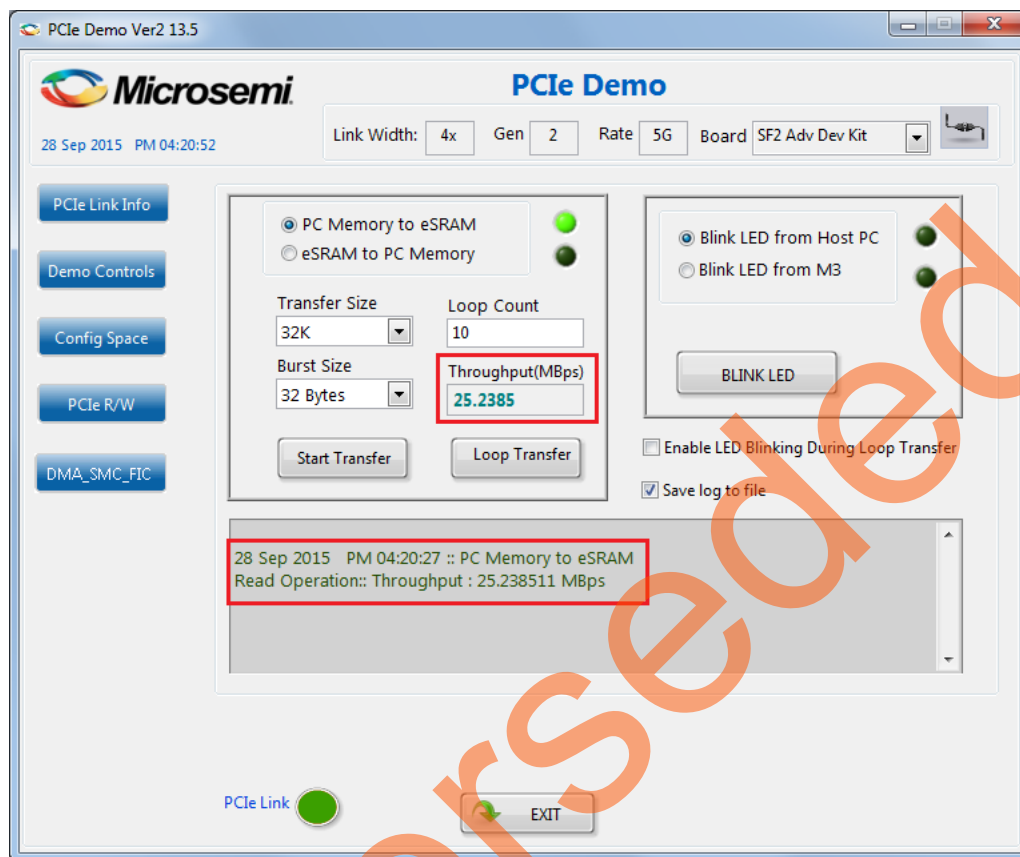

Figure 26 • Throughput in DMA Transactions from Host PC to eSRAM
18. After completion of data transfer, the throughput is displayed. Figure 26 shows the throughput in the DMA transactions from the Host PC to eSRAM.